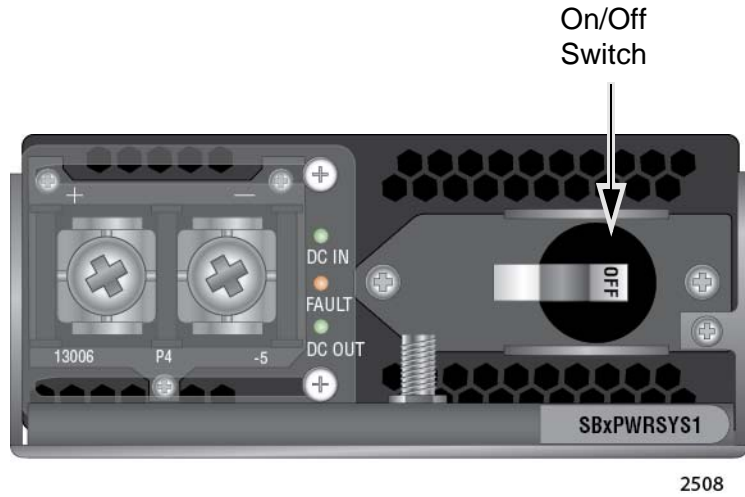

Figure 58. On/Off Switch on the AT-SBxPWRSYS1 DC Power Supply
4. Verify that the On/Off switch on the power supply is in the Off position. Refer to Figure 58 on page 123.